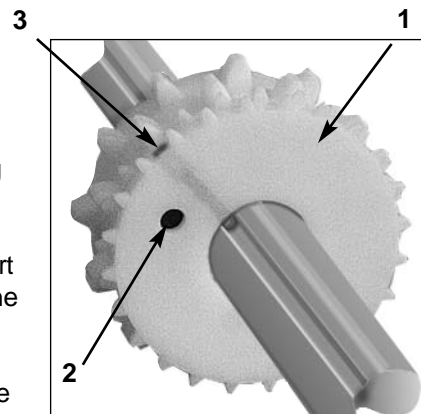

Fig 10
For sowing fine seeds the Vineyard Seeder is equipped as standard with a combined normal and fine seed "Elite" metering wheel (1). During grain sowing and other larger varieties of seed both the normal and fine seed metering wheels are coupled and both rotate. In order to convert the seed drill to sow fine seed insert the crank handle and rotate clockwise until the holes (2) of the fine seed wheel are visible (Fig 10).
Care should be taken when tightening the grub screws on the fine seed wheel (Page 20, Fig 10/3). Adjust the grub screw until the movement of the metering wheel just stops, then tighten no more than 1/8 of a turn.